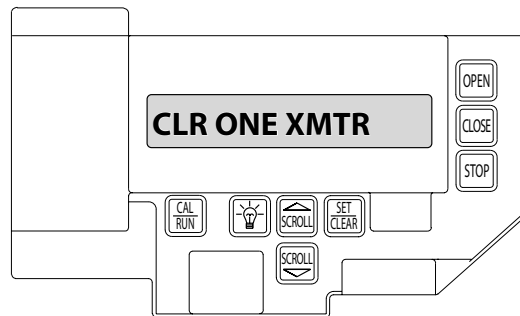

FIG. 2
7. Press SCROLL (up or down) until display reads CLR ONE XMTR? FIG. 2.